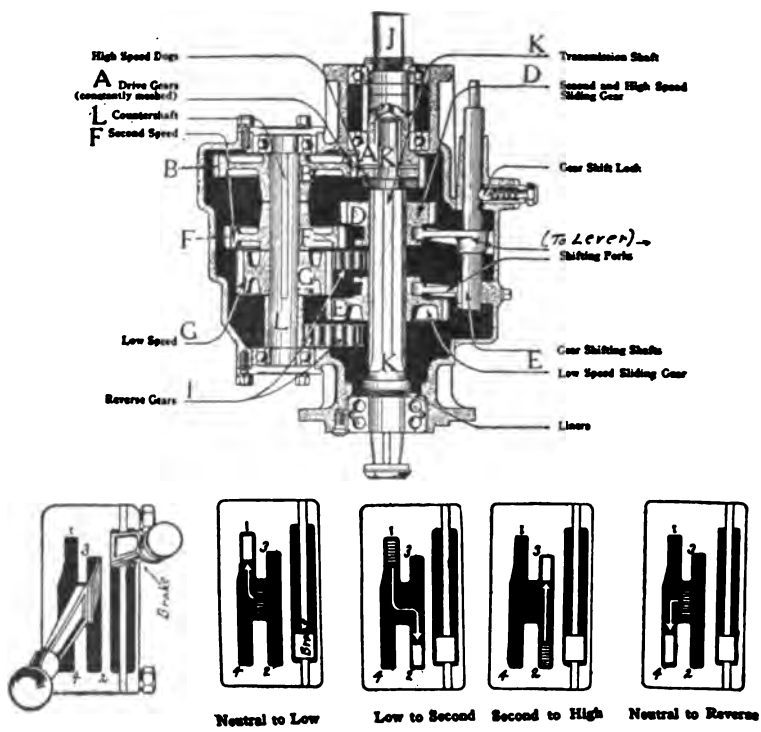

Fig. 3
Unlike the progressive gears, the selective form (Fig. 3) is operated by a lever (L) which works both out and in and back and forth in an H-shaped guide. This type of selective